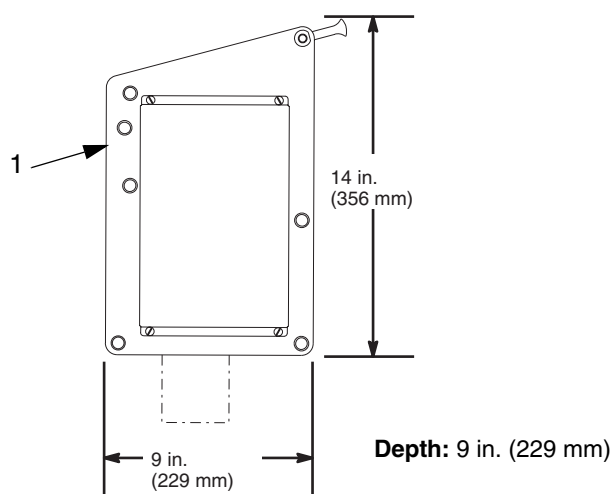

FIG. 1
The gun flush box (1) can be wall, stand, or drum mounted. See FIG. 1 for dimensions. Make sure the mounting surface will support the gun flush box, hoses, and stress of operation. Use the mounting holes as a template. Wall Mounting Kit 570133 is available.